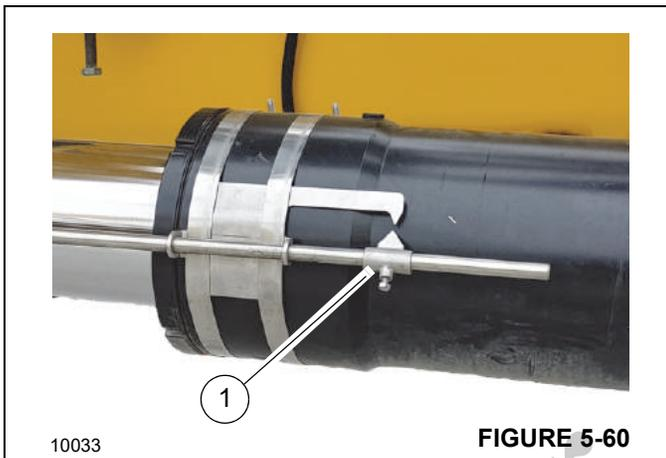

FIGURE 5-60
- If stowing an optional hydraulic boom extension, make sure the angle indicator (1, Figure 5-60) is aligned. If the arrows are not aligned, adjust the